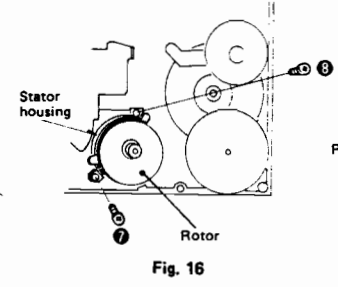

Fig. 16
8. Remove the 2 screws (⑦ , ⑧) and remove the stator housing from the mechanism base (Fig. 16).